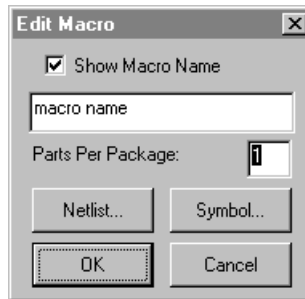

Figure 17.7. Use this dialog box to specify what part of the macro device you want to edit.
- 4 Double-click on the macro device. The dialog box shown in Figure 17.7 appears.